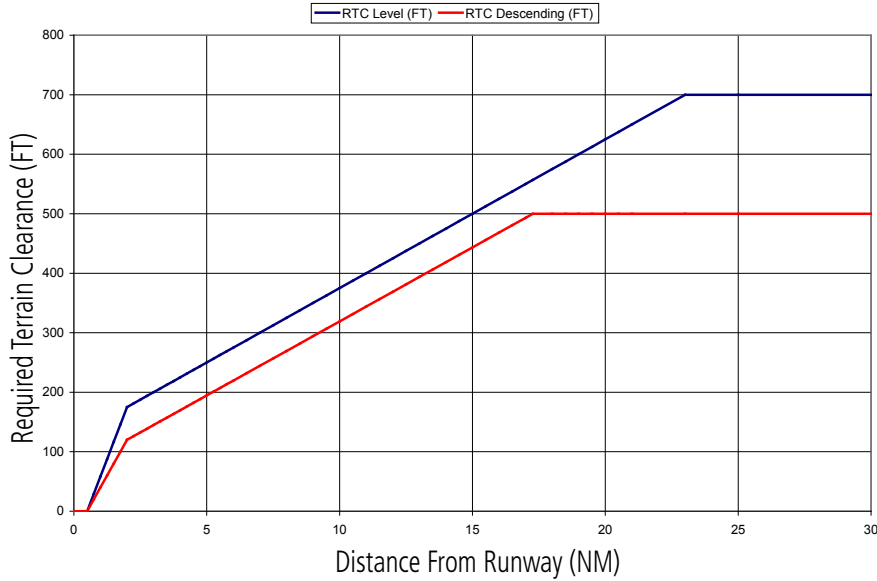

Figure 6-158 FLTA Alert Minimum Terrain and Obstacle Clearance Values
**Reduced Required Terrain Clearance (RTC)** and **Reduced Required Obstacle Clearance (ROC)** alerts are issued when the aircraft flight path is above terrain, yet is projected to come within the minimum clearance values in Figure 6-158. When an RTC alert is issued, a potential impact point is displayed on the TAWS-B Page.
**Imminent Terrain Impact (ITI)** and **Imminent Obstacle Impact (IOI)** alerts are issued when the aircraft is below the elevation of a terrain or obstacle in the aircraft's projected path. ITI and IOI alerts are accompanied by a potential impact point displayed on the TAWS-B Page. The alert is annunciated when the projected vertical flight path is calculated to come within minimum clearance altitudes in Figure 6-158.